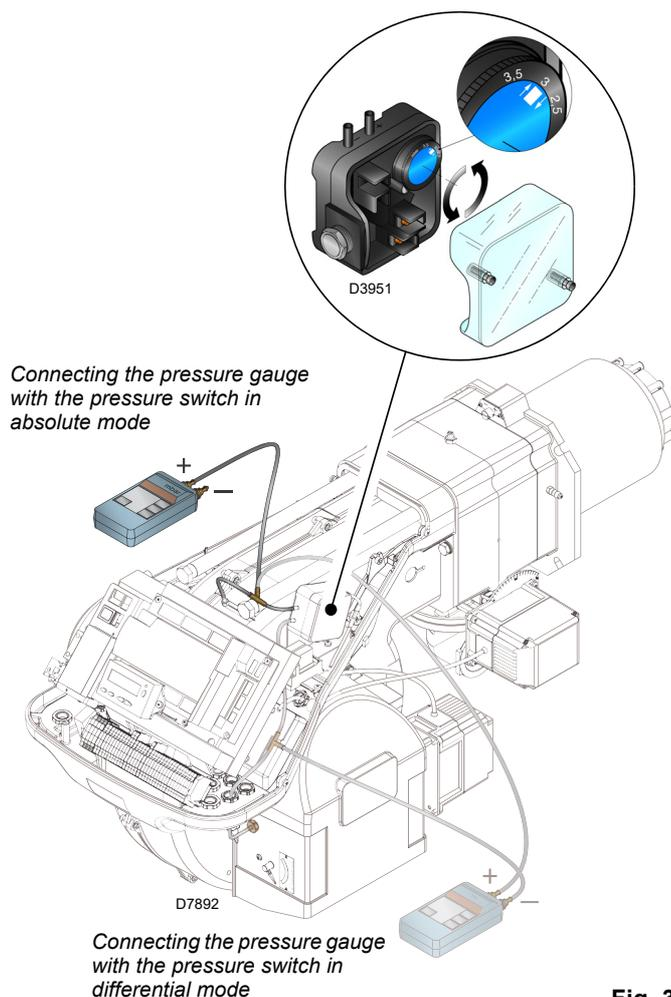

Fig. 32
- Adjust the air pressure switch (Fig. 32 at page 37) to the start of the scale.
Adjust the air pressure switch (Fig. 32) after having performed all other burner adjustments with the air pressure switch set to the start of the scale.
The connection of the pressure gauge is shown in Fig. 32. The standard configuration is that with the air pressure switch connected in absolute mode. Note the presence of a "T" connection, not supplied.
In this case also, the pressure gauge must be connected in differential mode, as shown in Fig. 32.